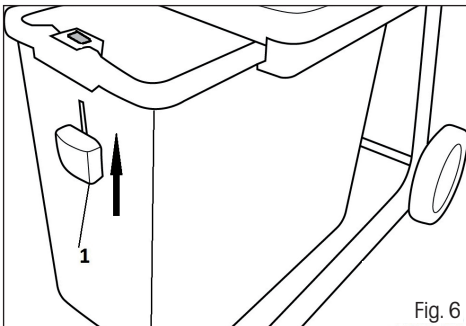

Fig. 6
3. Insert the collection box and lock in place using the safety mechanism. Fig. 6, point 1
- ✿ For safety reasons, the handle of the collection box (Fig. 6, point 1) is equipped with a safety lock.